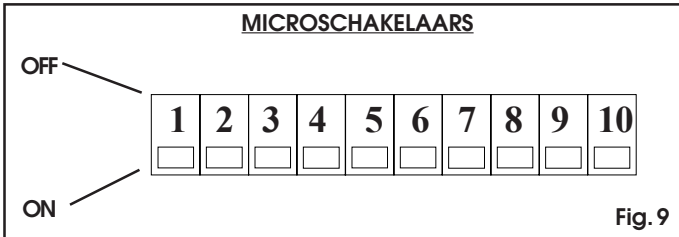

Fig. 9
5.4. DE MICROSCHAKELAARS PROGRAMMEREN (fig.9)